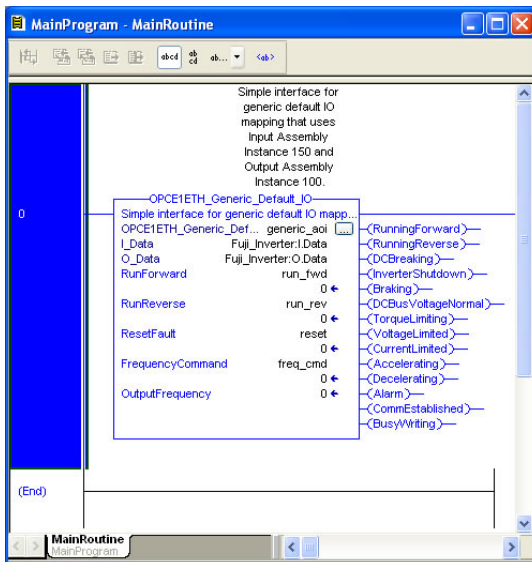

Figure 94: Configure Generic Default AOI
- 10) Edit the add-on instruction according to Figure 94.